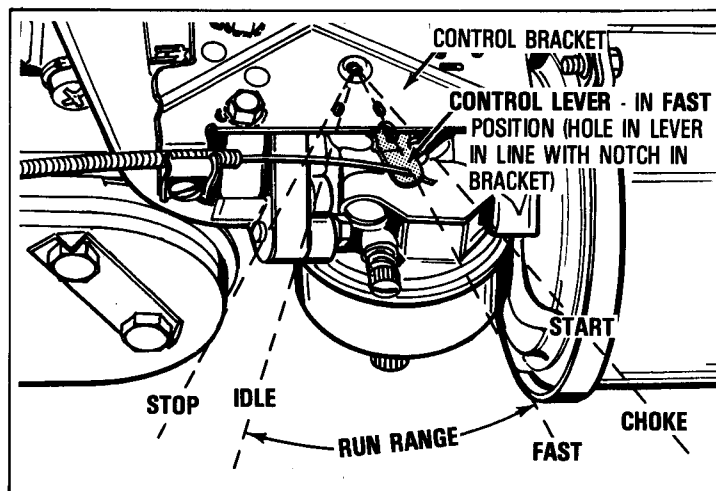

Figure 2
NOTE: See equipment manufacturer's instructions for control positions which correspond to engine control positions in Figure 2.
- ① **RECOIL STARTER:**
A. Move control lever (see Figure 2) or equipment control to "CHOKE" or "START".
② ELECTRIC STARTER: